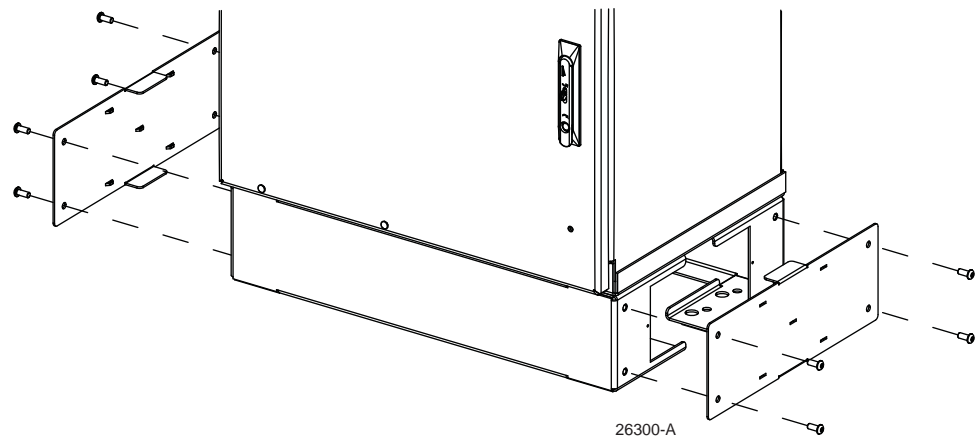

Figure 8. Removing Access Cover From Front of Ground Spacer/Riser
1. Use a 3/16-inch security hex-head wrench to remove the screws that secure the access covers to the left and right sides of the cabinet ground spacer/riser as shown in Figure 8.